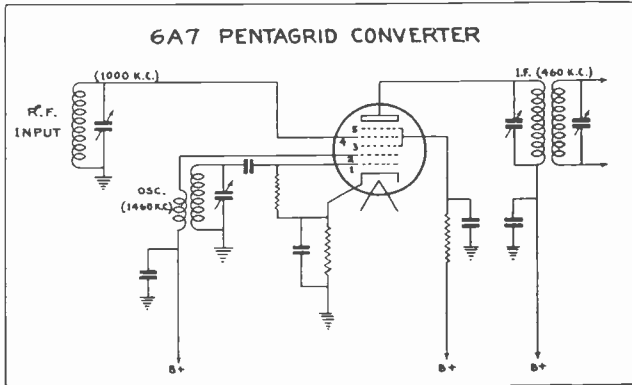

Fig. 48.—A circuit for a pentagrid converter which acts both as an oscillator and a mixer.
A multi-element tube may act as both oscillator and mixer. One class of tubes used in this manner includes the **pentagrid converters** such as the 6A7 and many others. A circuit using a 6A7 pentagrid converter is shown by Fig. 48. The single cathode functions in both the oscillator and mixer sections. The oscillator section includes grid number 1, nearest the cathode, as the control grid for a triode oscillator, and grid number 2 as the plate or anode. The oscillator grid (1) is connected to a tuned circuit, and to the coil of this tuned circuit is coupled a coil connected between the oscillator anode (2) and the B-supply. Grid number 2 is called the anode grid.